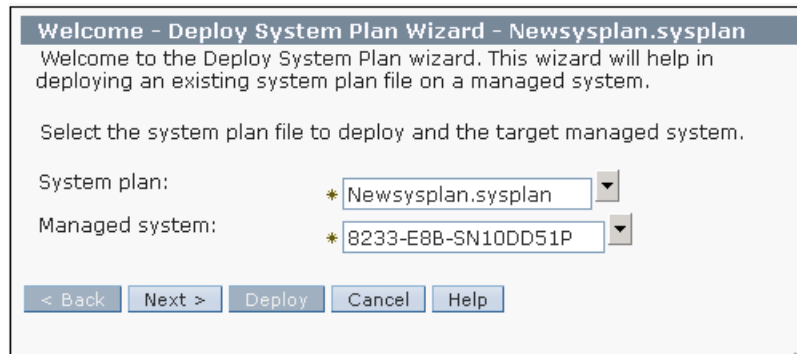

Figure 2-15 Confirm the deployment startup
2. After the wizard is started, its Welcome page, which is shown in Figure 2-15, requests that you confirm the system plan to deploy and choose the managed server to be the target of the procedure. When your choices are done (in our example, we want to deploy the `marc.sysplan` file to the `RCHAS60-SN10F26EA` server), click **Next** to continue.